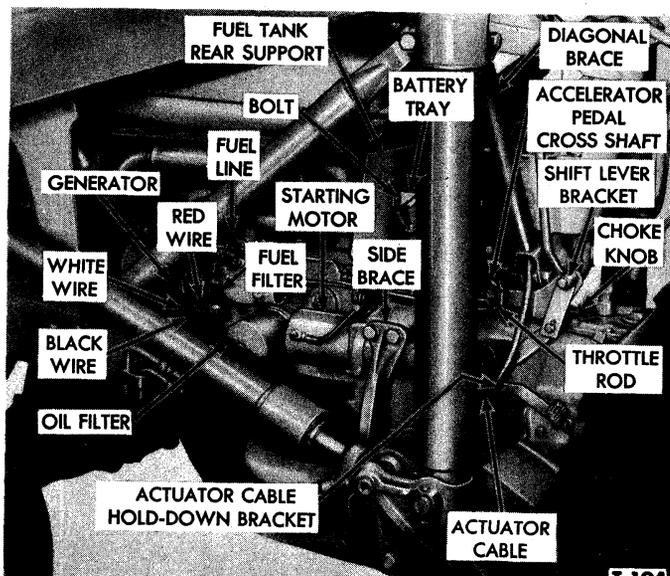

Figure 5—Left Side of Engine
Remove the bolt that attaches the battery tray to the left side of the fuel tank rear support, see Figure 5.
8. Disconnect the three wires from the generator, see Figure 5.
Tractor With Loader: Remove the left diagonal brace attaching bolts and lock washers, then remove the brace, see Figure 5.
Power Steering: Disconnect the actuator cable from the steering gear housing. Disconnect the cable hold-down bracket from the transmission and from the left frame side rail, see Figure 5.
Reversing Transmission: Secure the shift lever bracket to the transmission, see Figure 5.
13. Attach the muffler outlet pipe support to the fuel tank support with two bolts and lock washers. Attach the battery support to the fuel tank support with a bolt, lock washer and nut, see Figure 5.